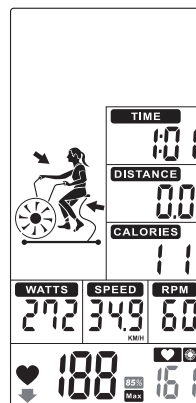

FIGURE 48
- When the heart rate exceeds 85%, the ↓ & 85% value will flash. An audible alert will sound every 10s until the user's heart rate drops below 85% (Figure 48).